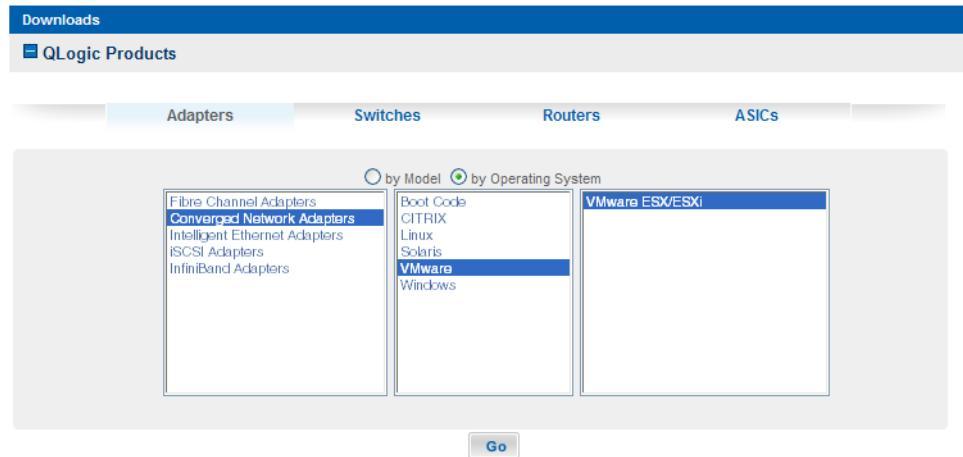

Figure 5-2. Select Adapter Software for VMware by Operating System
5. Select **VMware ESX/ESXi** in the third column of the selection list, and then click **Go** (Figure 5-2).